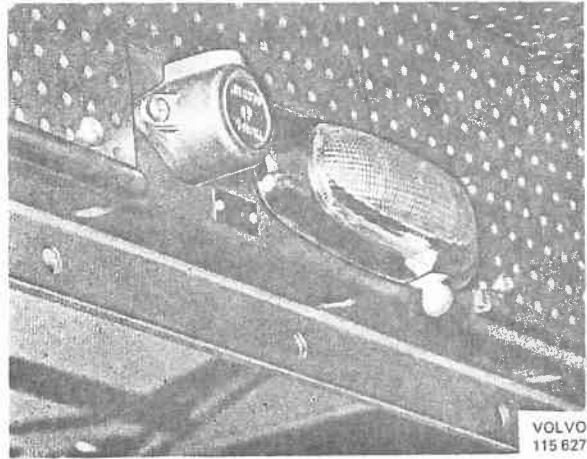

Fig. 35-11. Courtesy light
1. Remove the lens by pulling it backwards, see Fig. 35-11.